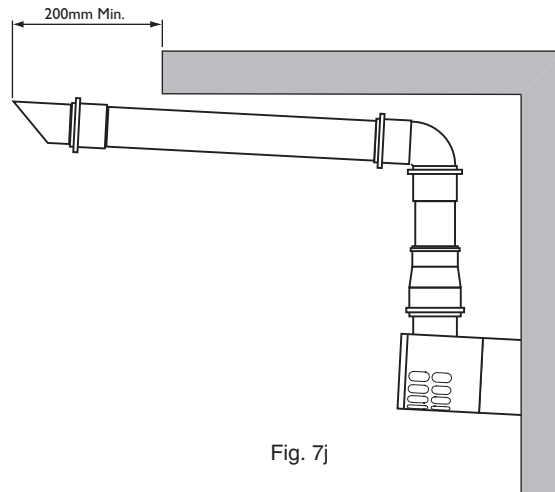

Fig. 7j
22. When the plume outlet is positioned under a balcony or other projection (Fig. 7j) it must protrude at least 200mm (it is not necessary to extend it further than this).